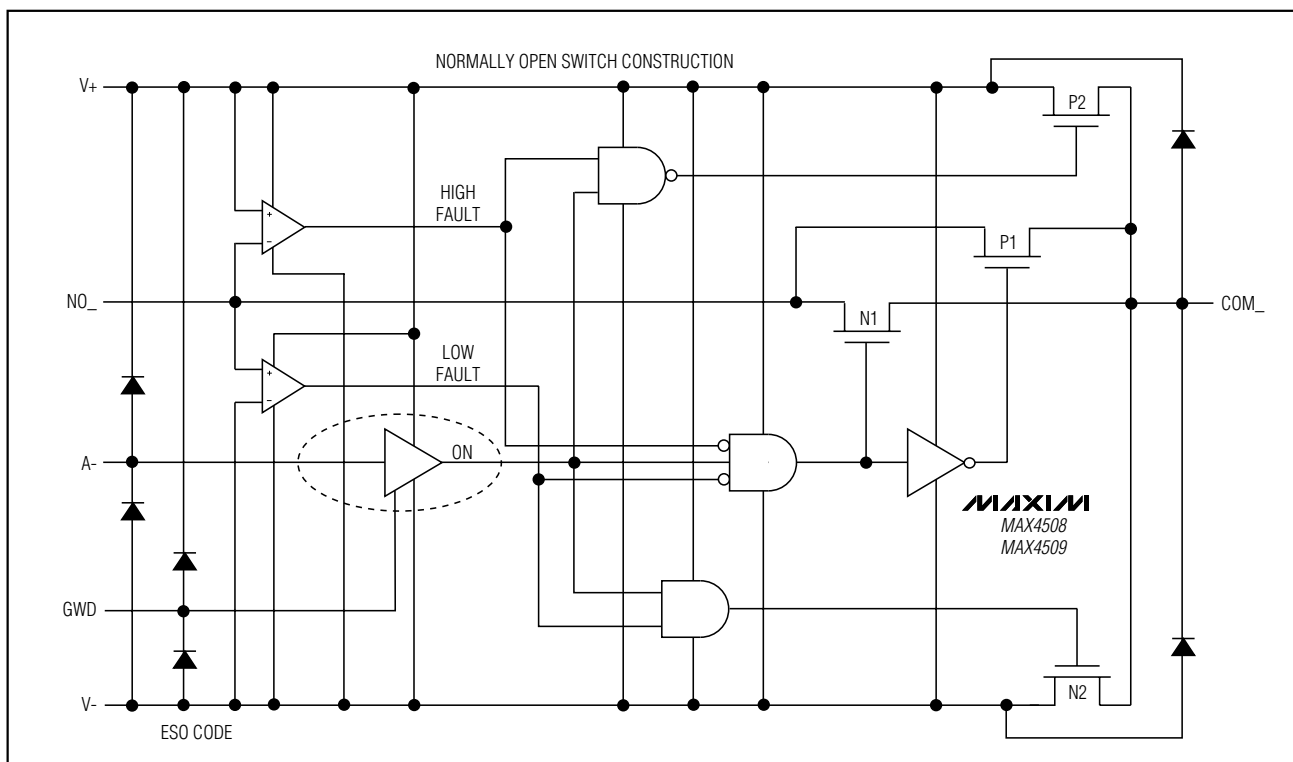

Figure 1. Functional Diagram
Figure 1 shows the internal construction, with the analog signal paths shown in bold. A single normally open (NO) switch is shown. The analog switch is formed by the parallel combination of N-channel FET N1 and P-channel FET P1, which are driven on and off simultaneously, according to the input fault condition and the logic level state.
Two comparators continuously compare the voltage on the NO\_ pin with V+ and V- supply voltages. When the signal on NO\_ is between V+ and V-, the multiplexer behaves normally, with FETs N1 and P1 turning on and off in response to A\_ signals (Figure 1). The parallel
When the signal on NO- exceeds V+ by about 150mV, the positive fault comparator output goes high, turning off FETs N1 and P1 (Figure 1). This makes the NO- pin high impedance, regardless of the switch state. If the switch state is "off," all FETs turn off, and both NO- and COM- are high impedance. If the switch state is "on," FET P2 turns on, clamping COM- to V+.
When the signal on NO- goes about 150mV below V-, the negative fault comparator output goes high, turning off FETs N1 and P1 (Figure 1). This makes the NO- pin high impedance, regardless of the switch state. If the switch state is "off," all FETs turn off, and both NO- and COM- are high impedance. If the switch state is "on," FET N2 turns on, clamping COM- to V-.
FETs N2 and P2 can source about ±10mA from V+ or V- to the COM- pin in the fault condition (Figure 1). Ensure that if the COM- pin is connected to a low-impedance load, the absolute maximum current rating of 30mA is never exceeded, either in normal or fault conditions.